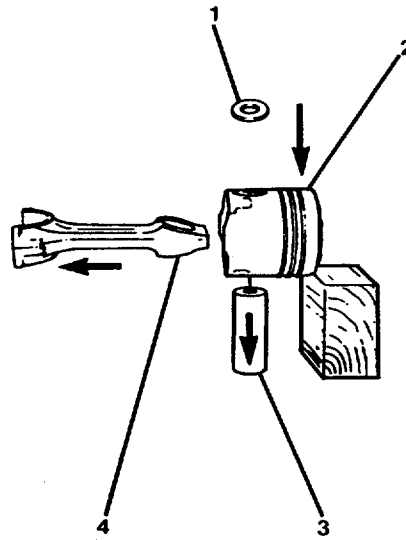

FIGURE 3-23. Removal of Piston from Connecting Rod.
- (1) Remove one retaining ring (1, FIG. 3-23).